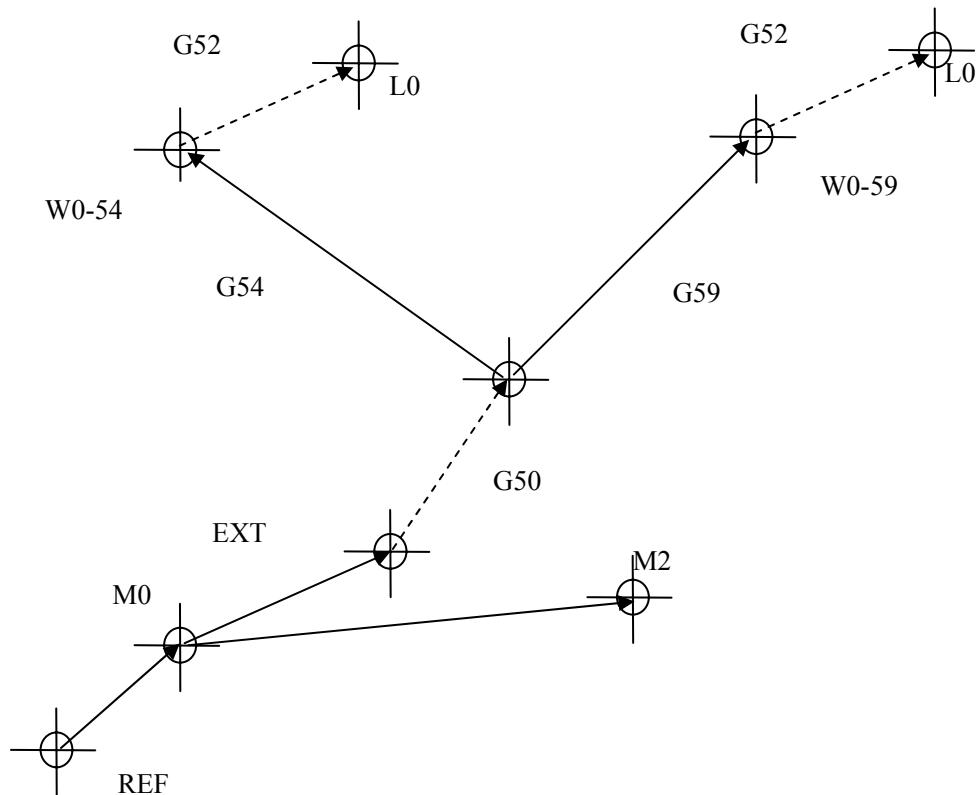

Fig.2-20
- Fig.2-20 describes the relationship of the three coordinate systems: